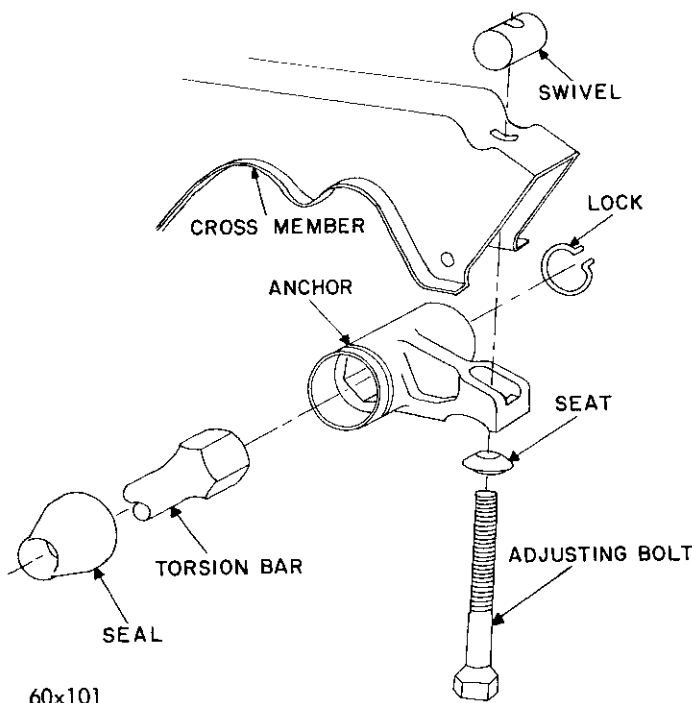

Fig. 8—Torsion Bar Rear Support Assembly
(5) Install the torsion bar (Fig. 8) and position the seal in the groove on the anchor hub.
(6) Turn the torsion bar until the anchor end is positioned approximately 120 degrees (eight o'clock position) down from the frame.
(7) Engage the front end of the bar in the hex opening of the lower control arm. If the anchor end is not in the position just described when installing the torsion bar, it will be impossible to adjust the front suspension to the correct height.
(8) Before installing the lock ring, center the bar so that full contact is obtained at anchor and arm shaft. Install the lock ring, making sure it is seated in its groove.
(9) Pack the torsion bar anchor seal with high melting point lubricant and position lip of seal in the groove in the anchor hub. Install the plastic seal into the rear end of the torsion bar anchor.
(10) Slide the adjusting bolt swivel in position on the frame. Hold in position while installing the new adjusting bolt and seat. Tighten the bolt into a new swivel until approximately 1 inch of threads are showing out of the swivel. This is an approximate setting and is to be used only as a starting point when adjusting for correct height. This setting is also necessary to place a load on the torsion bar before lowering the vehicle to the floor.
(11) Lower the vehicle to the floor, then measure and adjust the suspension as required (see Paragraph 9).